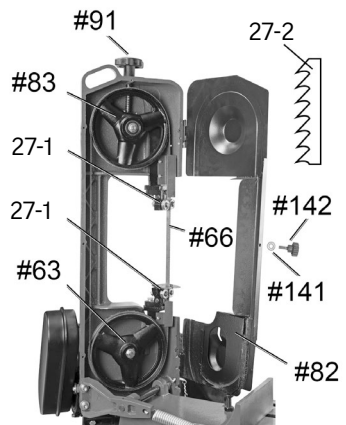

Fig. 27
3. Remove the Screw (#142) and Flat Washer (#141) to open the Blade Back Cover (#82) and access the Saw Blade (Fig. 27).